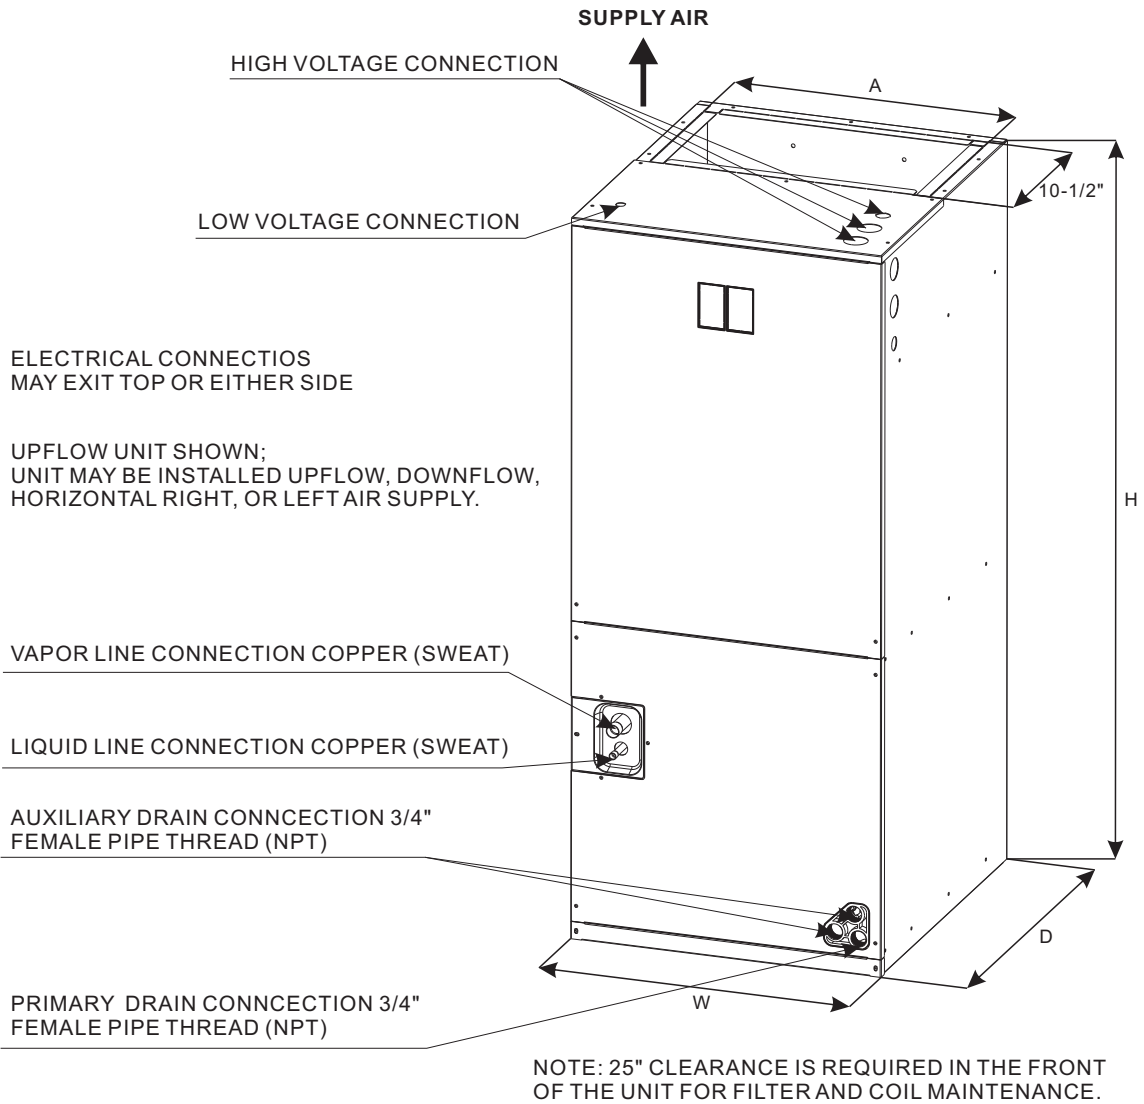

Fig.6 DIMENSIONS
Top and side power and control wiring, accessible screw terminals for control wiring all combine to make the installation easy, and minimize installation cost. Please contact your local distributor. See Fig.6.
- 1) Vertical Upflow configuration is the factory set on all models (see Fig 6)
Torque applied to drain connections should not exceed 15.ft.lbs.(see Fig.6&7)